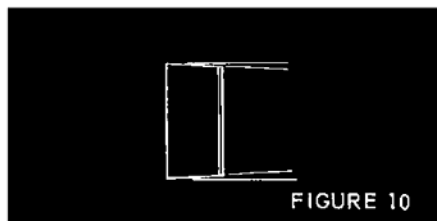

FIGURE 10
Step 3. Lay right side on table, glue 1/4" X 3/4" X 1 1/2" tail block in place. Shave sides of block to fit taper angle. Fig. 10.